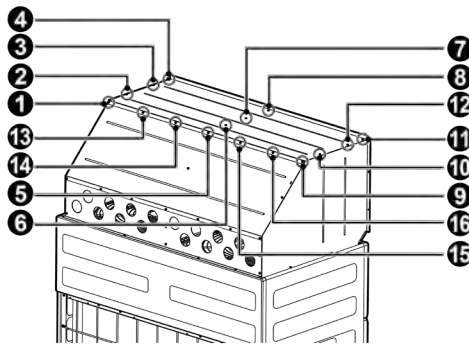

Fig. 3.25
Step 4: installation of Top Plate 4. Please refer to Fig 3.25 for the installation location and sequence of screws.